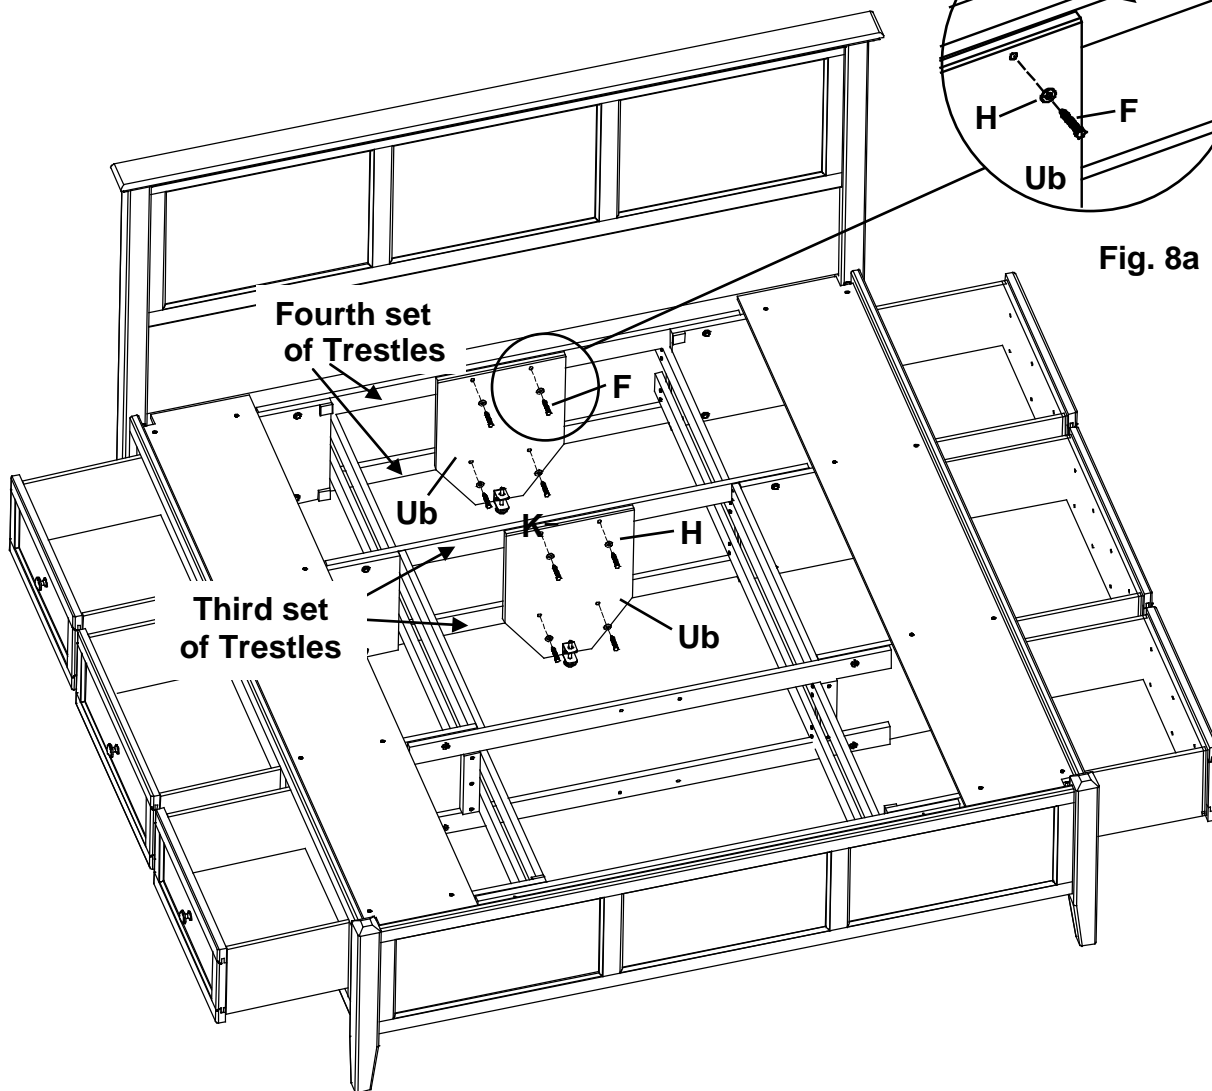

Fig. 8
Facing the Headboard, place two Assembled Feet (Ub) on the inside faces of the third and fourth upper and lower Trestles. Attach with Washers (H) and 1/4" x 1-3/4" Hex Bolts (F). See Figures 8 and 8a.